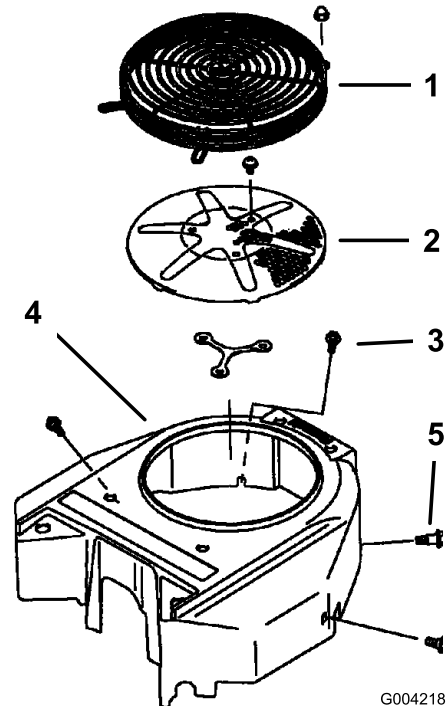

Figure 54
Before each use remove any build-up of grass, dirt or other debris from the engine screen. This will help insure adequate cooling and correct engine speed and will reduce the possibility of overheating and mechanical damage to the engine (Figure 54).
3. Remove the air intake screen, recoil starter and fan housing (Figure 54).
5. Install air intake screen, recoil starter and fan housing (Figure 54).